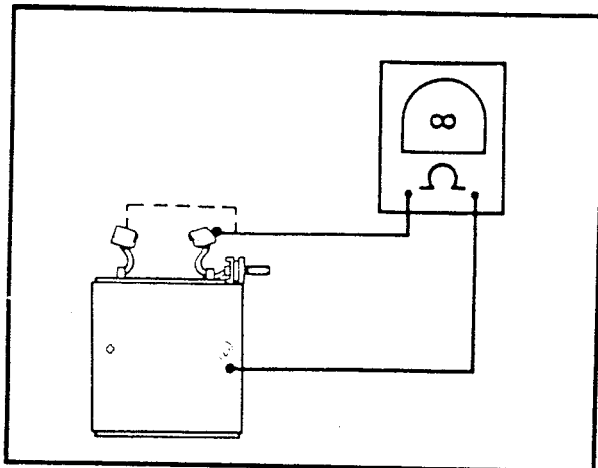

Figure 4-37. Grounded Field Test
6. See Figure 4-37. Check for GROUNDED FIELD WINDING with an ohmmeter or continuity tester. Touch one probe to the frame, and the other probe to each of the brushes attached to the field winding. There should be no continuity (infinite ohms). If there is any continuity at either brush, the field winding(s) are grounded and the field frame should be replaced.